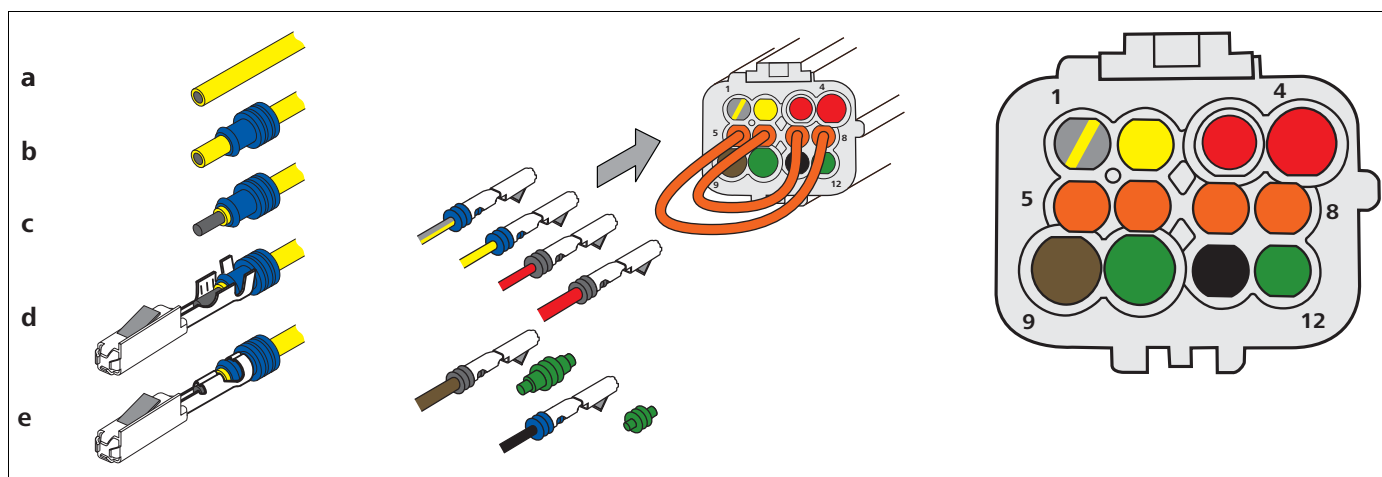

Fig. 852 Convert old wiring harness with connector X11 for new heater
See Fig. 852.
- 7 Insert pins of wiring harness, pins of short orange wires and blind plugs (conversion kit) into connector housing (see Table 801 and Fig. 852).